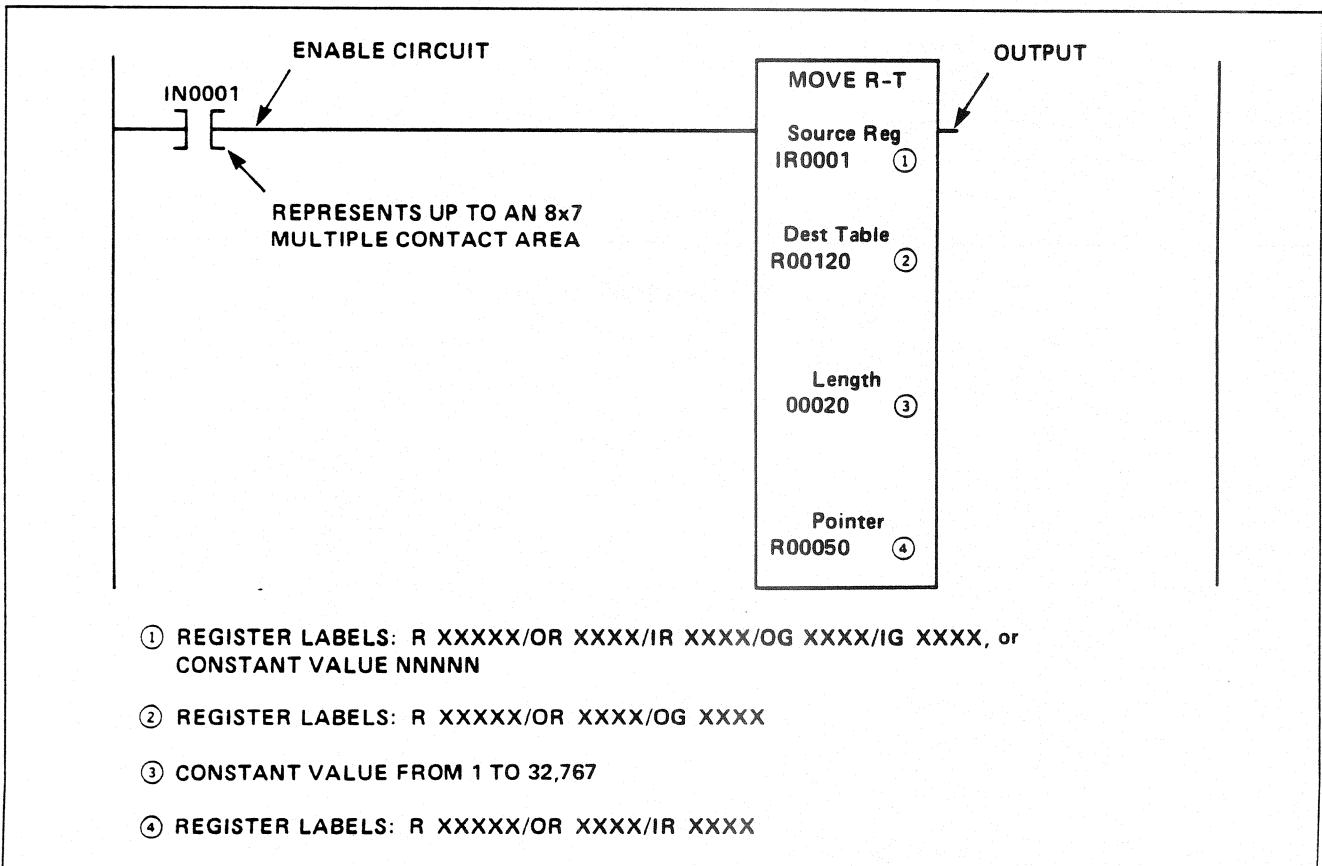

Figure MRT-1. Move Register-to-Table Circuit (Typical)
The Move Register-to-Table programmable function allows the transfer of data from a specified register into a single register contained in a table of registers. The location into which the data is transferred is determined by a Pointer Register. Figure MRT-1 shows a typical circuit containing the Move Register-to-Table function. Observe the Figure and note the following 5 points:
4. The Pointer Register contains a number specifying where in the Destination Table the data from the Source Register is to be transferred. In the example shown in Figure MRT-1, if the Pointer Register contained a value of 1, the data from IR0001 would be transferred to register R00120. If the Pointer contained a 2, the data would be transferred to register R00121, etc.